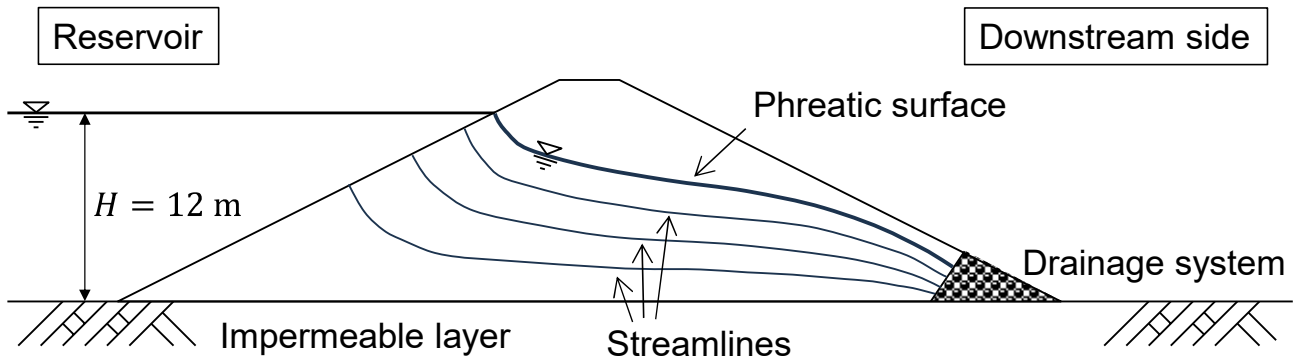

Figure 2-2
(2) Consider an earth dam of a reservoir constructed on a horizontal impermeable layer as shown in Figure 2-2. Assume that the water level of the reservoir reaches up to 12 m height from the impermeable layer, and a drainage system is installed at the foot of the downstream side of the dam, which is in a steady state. Answer the following questions.
- 1) In Figure 2-2, the phreatic surface and streamlines (flow lines) from the reservoir to the drainage system are depicted. Explain the criteria that should be met when drawing a flow net. Then, complete the flow net by adding equipotential lines (draw them on the diagram provided).